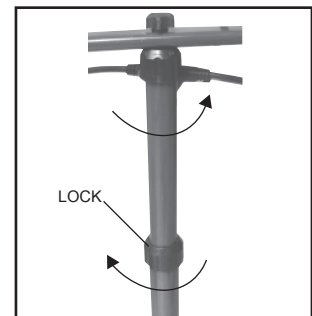

Figure 4
- 5- Adjust the telescope pole to desired height by loosening and tightening lock nuts at the top of each extension as shown in figure 4.